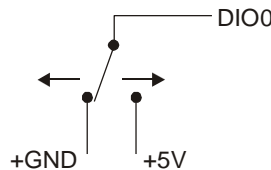

Figure 11. Schematic showing switch detection by digital channel DIO0
When you configure the digital bits for input, you can use the USB-TEMP digital I/O terminals to detect the state of any TTL-level input. Refer to the schematic shown in Figure 11. If you set the switch to the +5V input, DIO0 reads *TRUE* (1). If you move the switch to GND, DIO0 reads *FALSE* (0).